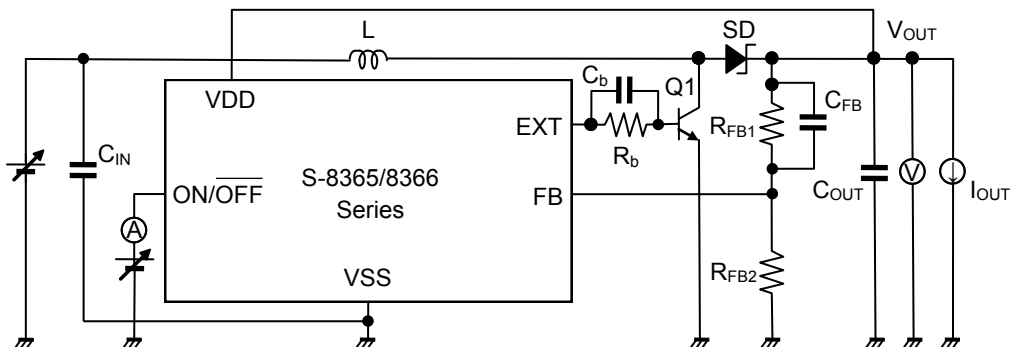

Figure 10
*2. This is the guaranteed value measured with external parts shown in “Table 10 External Parts List” and with test circuits shown in Figure 10. The operating start voltage varies largely depending on diode’s forward voltage. Evaluate sufficiently with actual device.